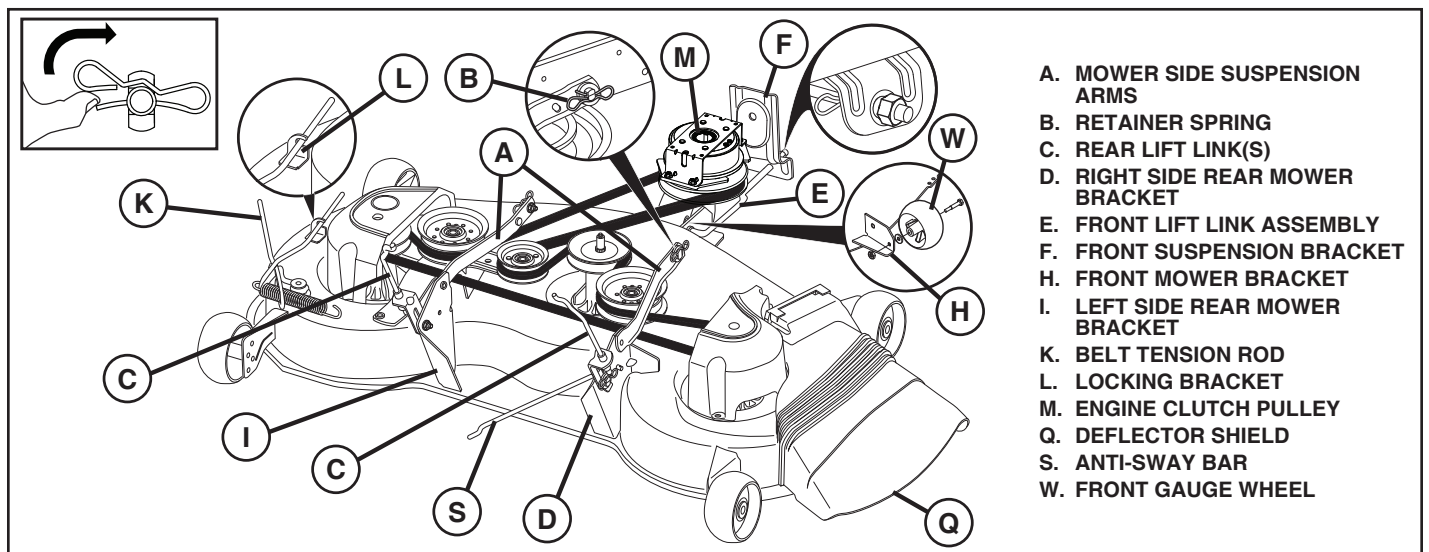

Fig. 1
TO REMOVE MOWER (See Fig. 1)
TO INSTALL MOWER (See Figs. 1 - 13)
9 INSTALL BELT ON ENGINE CLUTCH PULLEY (M) (See Fig. 1 & 13)
- Disengage belt tension rod (K) from locking bracket (L).
- Install belt onto engine clutch pulley (M).